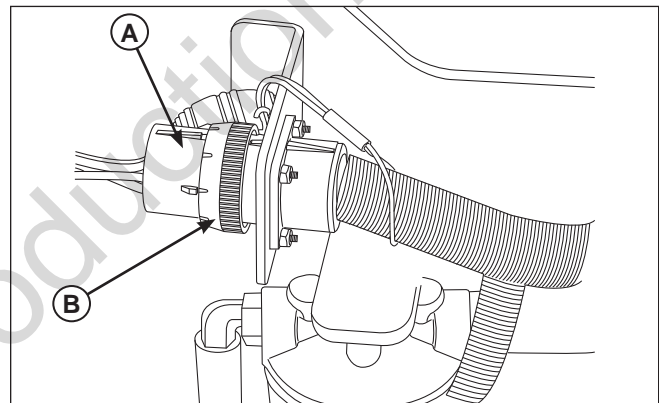

Figure 14. Actuator Wire Harness
5. Raise the seat and disconnect the actuator wire harness (**A, Figure 14**) on the right side of the machine by rotating the connector dial (**B**) and pulling apart.
5. Reconnect the actuator wire harness (**A, Figure 14**) to the main harness of the zero-turn rider.